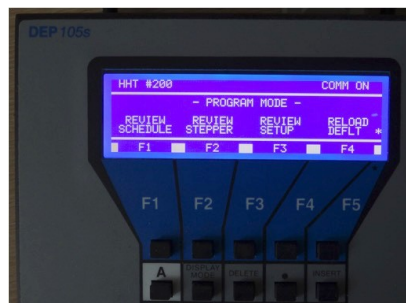

Figure 8: Programming box to input electric heating profile.
13. In the programming box, under program mode, select 'review schedule' by clicking F1 (Figure 8). Input the electrical heating profile in the program ensuring that applied current limits on the resistance heating system of 15 kA is not exceeded.